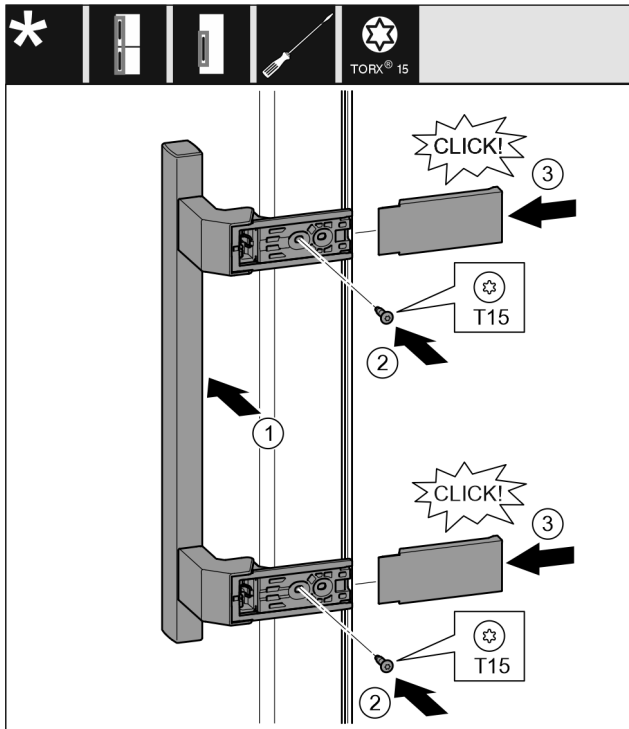

Fig. 14
- ▶ Position the handle on the opposite side. Fig. 14 (1)
- ▶ Tighten the screws using the T15 screwdriver. Fig. 14 (2)
- ▶ Position the covers on the side and push them on. Fig. 14 (3)